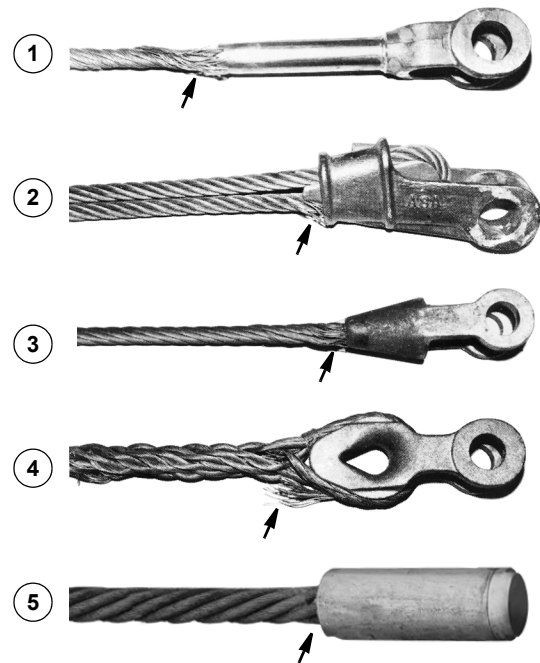

FIGURE 5-11
- **STANDING ROPES** (pendants) — more than two broken wires in one lay length in sections beyond the end attachment, or more than one broken wire at the end attachment (see Figure 5-11).